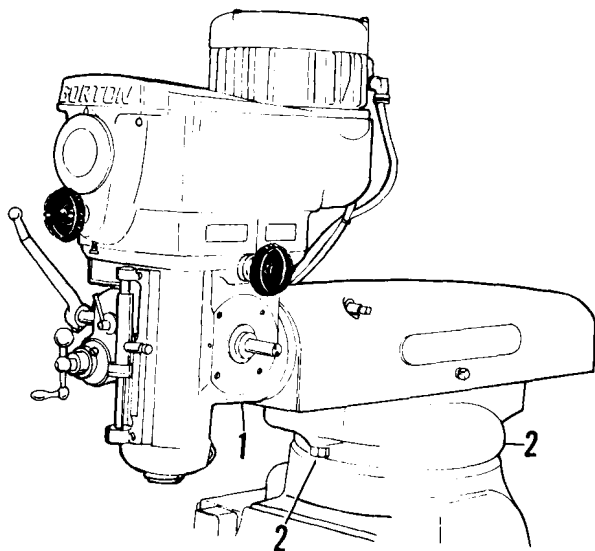

Figure 24. Removing Swivel Head
53. REMOVING SWIVEL HEAD (figure 24)
54. REMOVING RAM AND HEAD ASSEMBLY (figure 24)